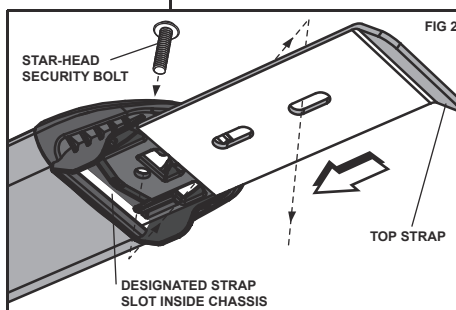

FIG 2
3. Slide Top Strap into End Support Chassis (as shown in Fig 2). Fit Star-Head Bolt through the slot closest to the curled end of the Top Strap. This will allow correct Strap alignment while fitting Screw in Step 4.